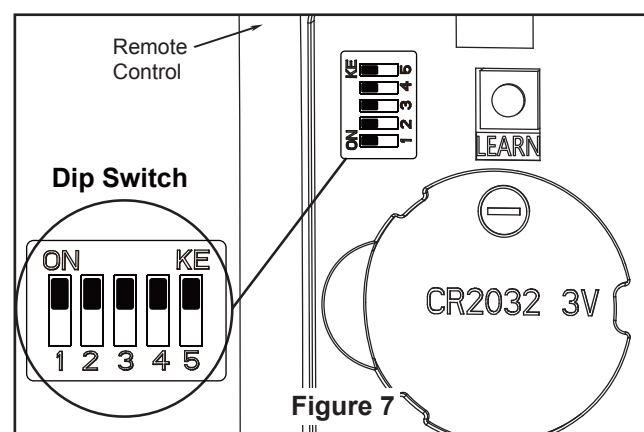

Figure 7
- ☐ 9. To set the remote code in the same positions as the receiver, use a small screwdriver or ball point pen (neither included) to slide dip switches firmly up or down. (Figure 7)